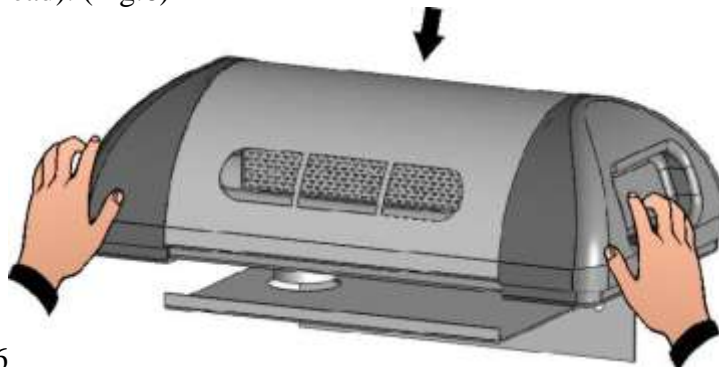

Fig.6
3. Fix the support bracket to the wall: make sure it is level both transversely and longitudinally (one for each distributor head). (Fig.6)